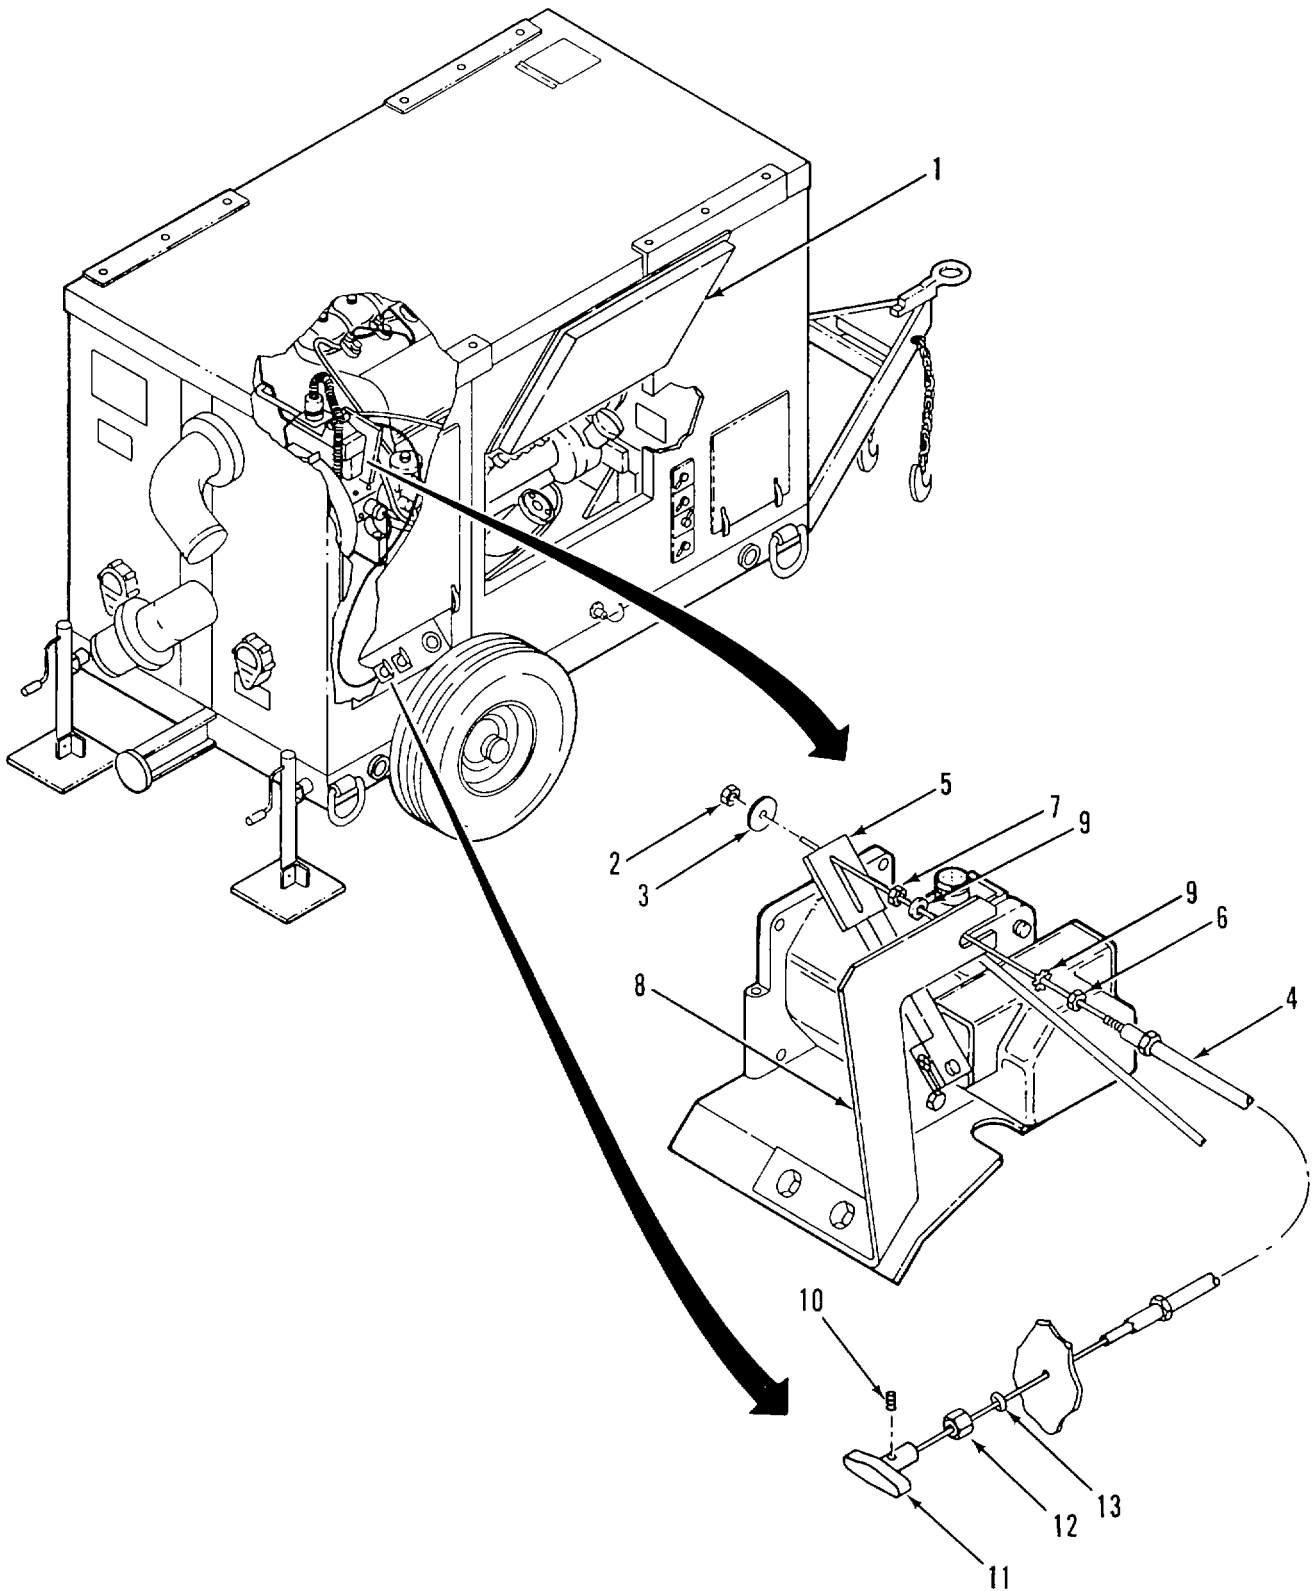

Figure 2-18. Auto Defeat Cable
a. REMOVE. (Figure 2-18)
- (1) Open engine access door (1).
- (2) Push handle (11) in and turn to lock.
- (3) Remove nut (2) and flat washer (3) from end of cable (4) at governor actuator lever (5).
- (4) Loosen nuts (6 and 7) at bracket (8) and pull cable (4) away from bracket.
- (5) Remove nuts (6 and 7) and washers (9).
- (6) Loosen setscrew (10) and remove handle (11) from cable (4).
- (7) Remove nut (12) and O-ring (13).